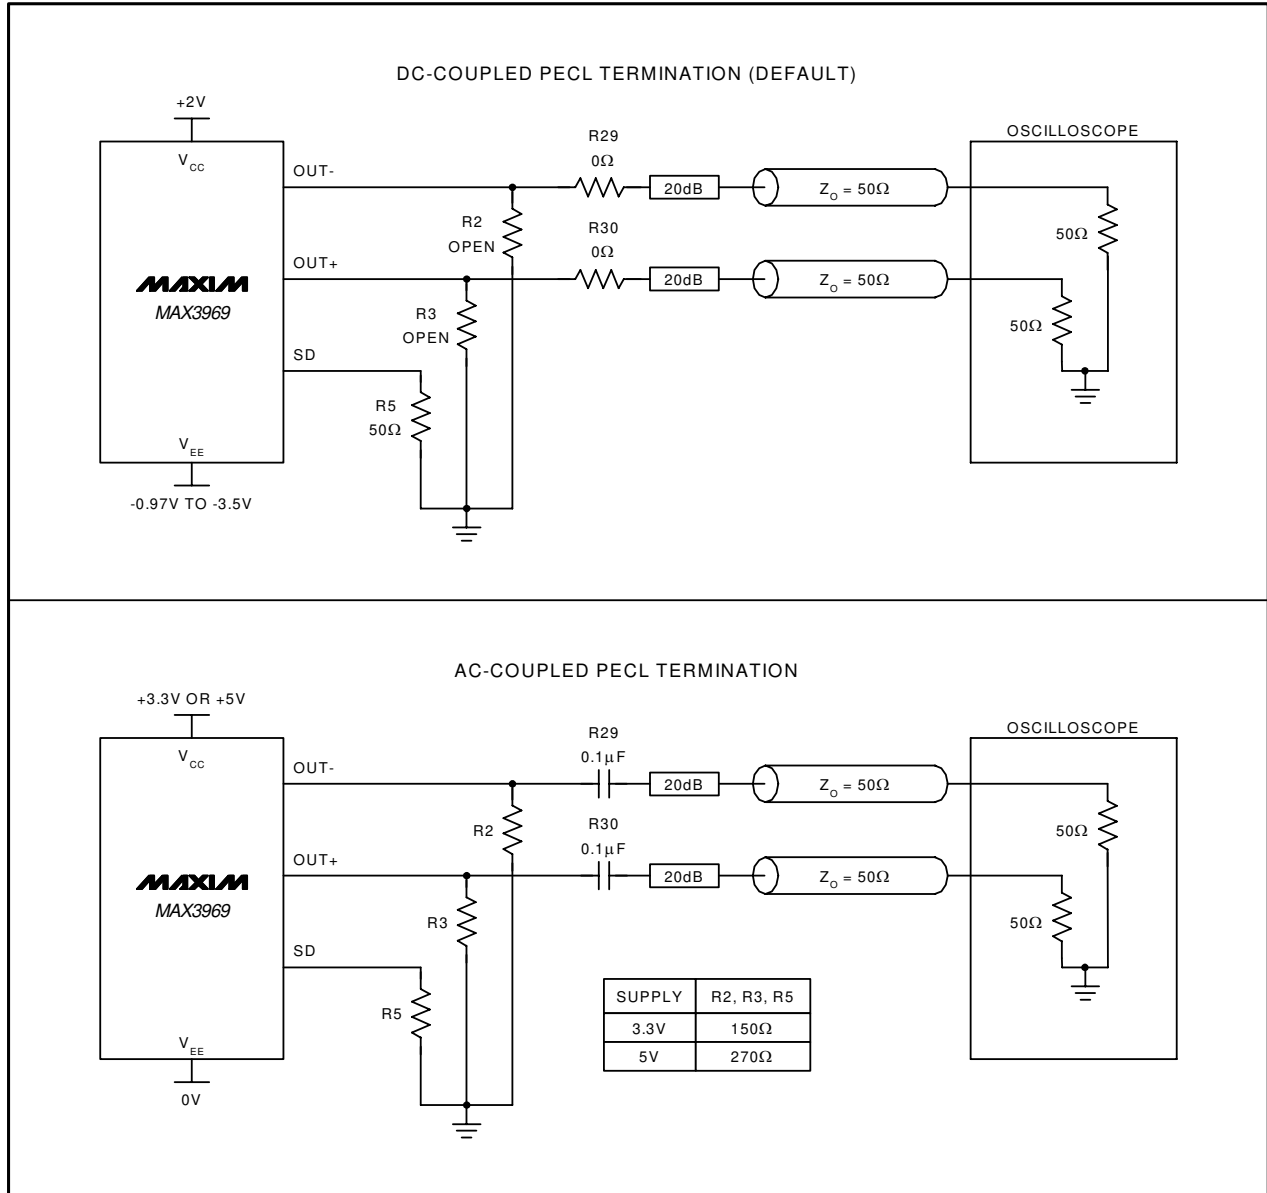

Figure 1. PECL-Output Terminations
The data outputs (OUT+, OUT-) and signal detect output (SD) are PECL compatible and any standard termination technique can be used. Figure 1 illustrates typical DC and AC terminations.